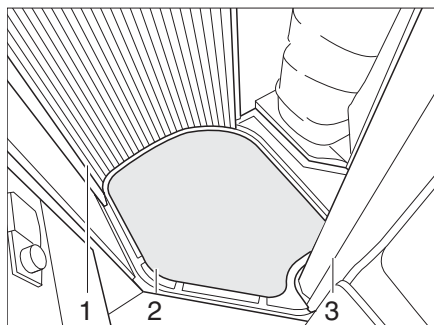

Fig. 130 Cover of the shower tray
- Remove the cover of the shower tray (Fig. 130,2).
- Completely pull closed the shower curtain (Fig. 130,1 and 3).